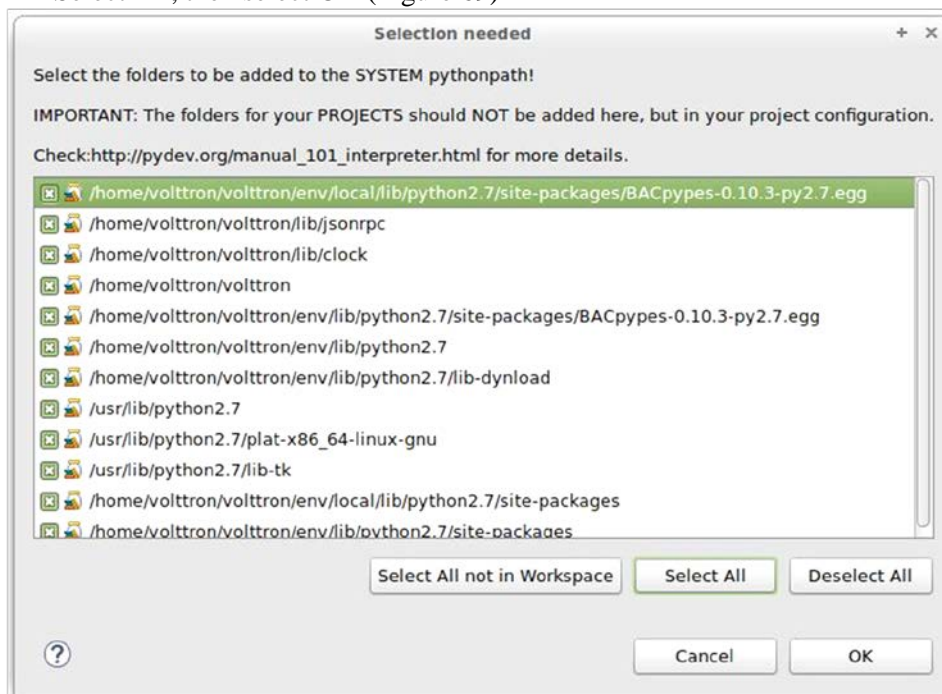

Figure 69: Configuring PyDev (Continued)
- Select All, then select OK (Figure 69)